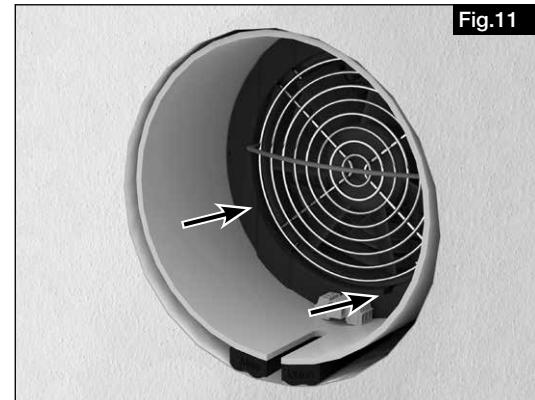

Fig.11
6. Insert the unit into the wall mounting sleeve until contact is made with the facade panel (see Fig. 11).